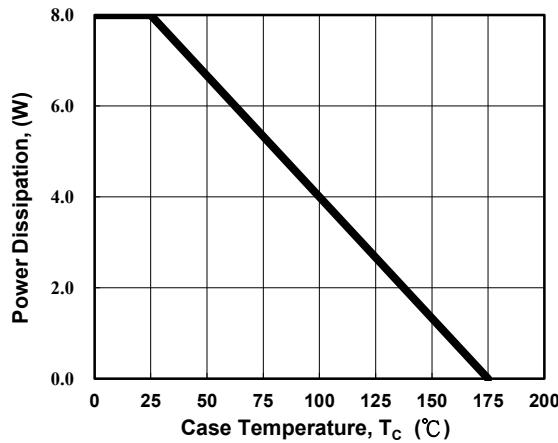
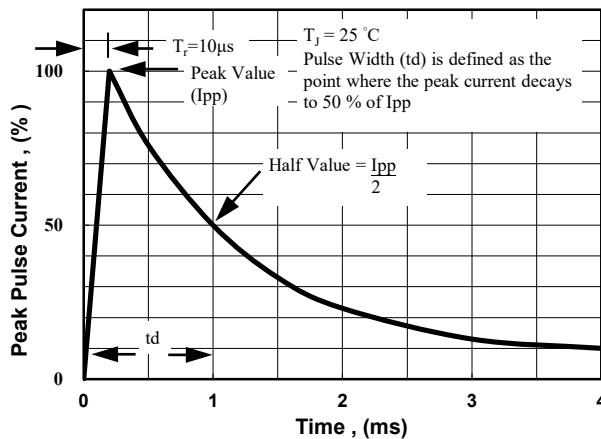

Fig. 1 - Power Derating Curve
Fig. 2 - Pulse Waveform
(1)Non-repetitive current pulse per Fig.2 and derated above $T_A = 25^\circ\text{C}$ per Fig.1